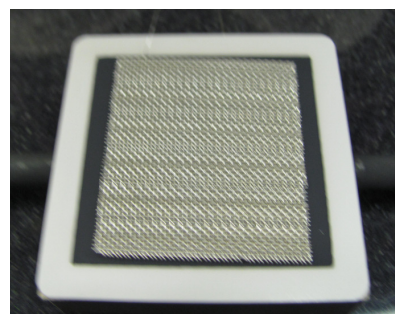

Figure 16
9. Place the silver mesh onto the cathode active area so that the channels are parallel to the manifold tubes (Figure 16).